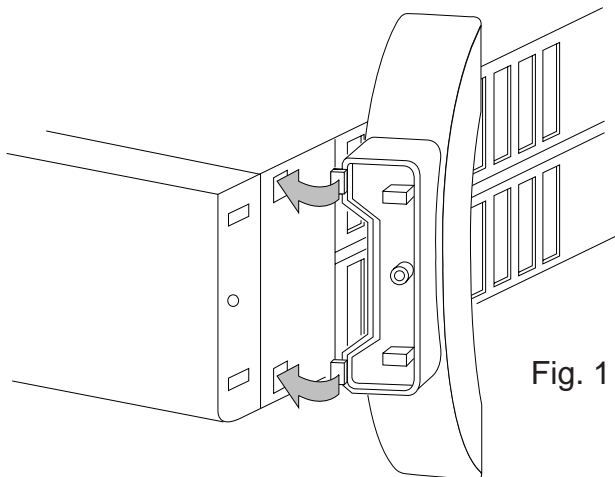

Fig. 1
- Insert the anchor pins into the slots and turn the foot until it clicks into position (fig. 1).